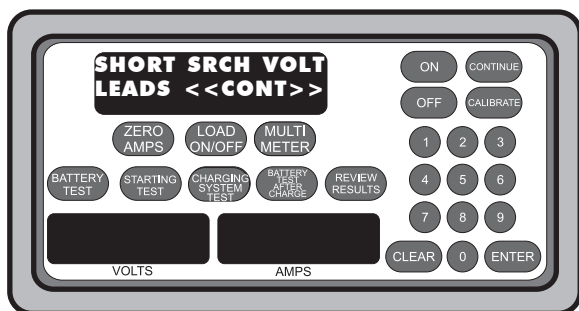

Figure 28
5. The display reads “SHORT SRCH VOLT LEADS” (see Figure 28). To short the search volts leads, clip them together so that the metal clips are in complete contact with each other. Then press [CONTINUE].